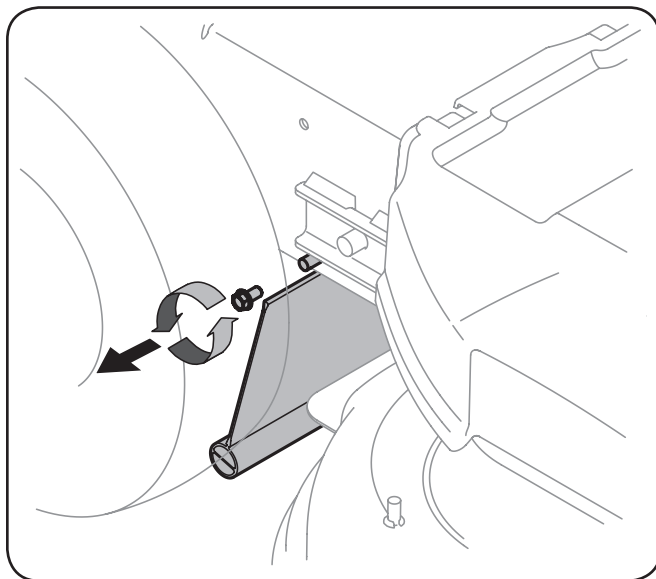

Figure 7-7
1. Remove the screw which secures the trail shield to the right side of the mower. See Figure 7-7.